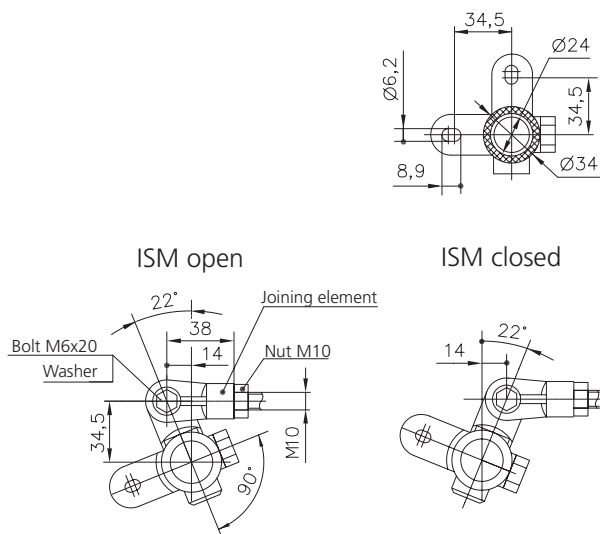
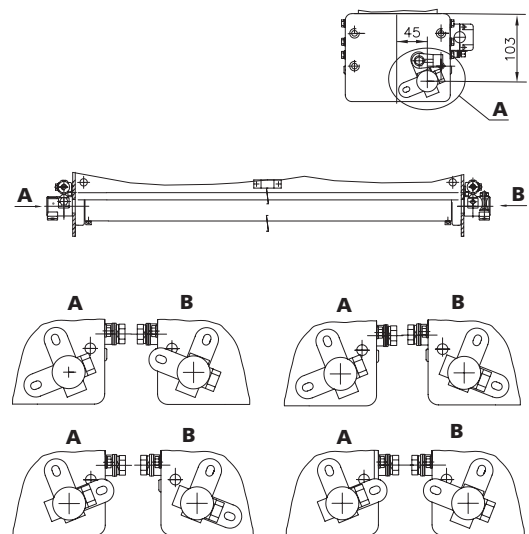

Figure 41
Figure 43
**Construction and connection variants of interlocking lever at the side stub shafts (Figure 41, Figure 43)**
Possible connection variants of the interlocking levers (Figure 43).